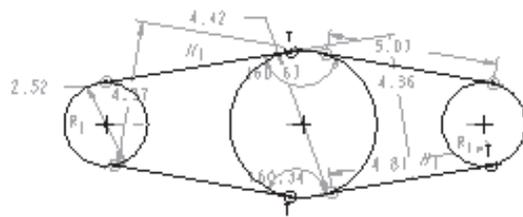

Figure 2-29 Lines joining the three circles with weak dimensions
- Choose the **Create lines.** button from the **Right Toolchest.** Draw the lines connecting the three circles as shown in Figure 2-29. Later you will apply the tangent constraint on these lines.